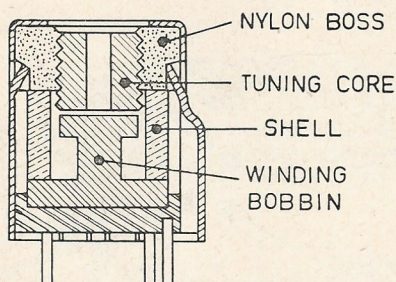

FIG. 5—I.F. TRANSFORMER CONSTRUCTION.
‡ These transformers are a very high Q miniature type, the construction of which is shown in Fig. 5. It should be appreciated then that the amount of travel for the tuning
3. To remove an i.f. transformer or oscillator coil it is desirable to have a suitable tip on the soldering iron as shown in Fig. 9. All seven connections on the transformer may be freed simultaneously and the transformer pulled from the board. This is the only satisfactory method; any other method using smaller irons will generally result in damage to either the board or the transformer or to both. The construction of the transformer is shown in Fig 5.